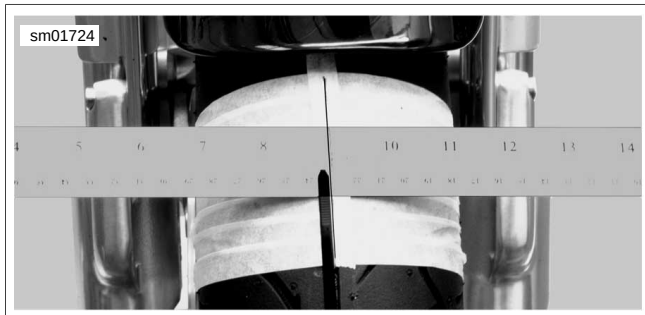

Figure 1-39. Fall-Away Measurement
3. See Figure 1-39. Install masking tape on front tire. Fasten ruler over taped area on front tire and draw a line on the masking tape even with the ruler center.